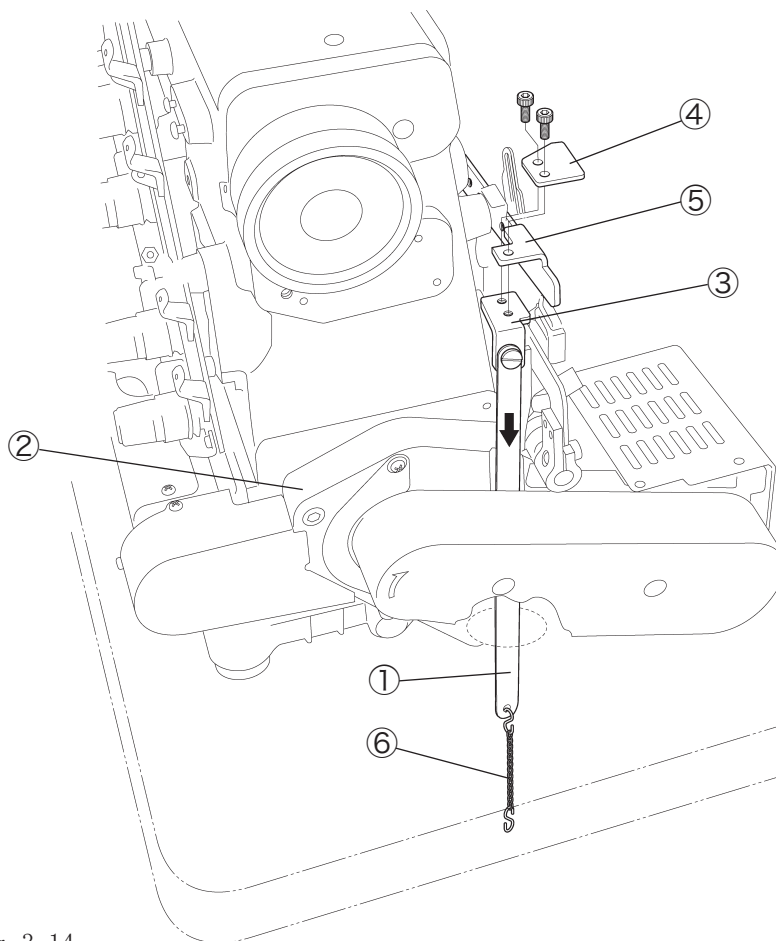

Fig. 3-14
- (1) The sewing machine install onto the sewing table.
- (2) Insert the lifter connecting link ① into the groove of the motor bracket ② .
- (3) Install the lifter connecting link holder ③ and the lifter connecting auxiliary plate ④ to the lifter lever ⑤ referring to the Fig. 3-14.
- (4) Hook the chain ⑥ in the hole of the lifter connecting link ① which is stuck out the bottom of the sewing table.